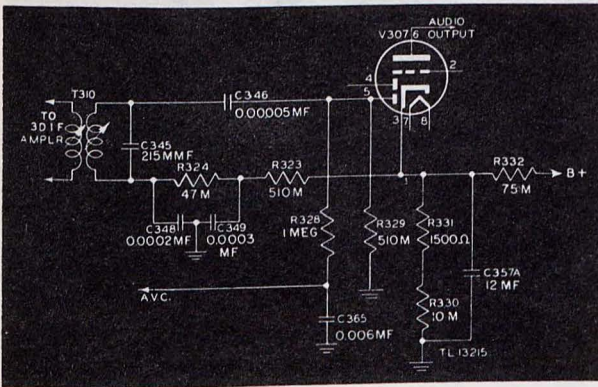

Figure 43. Radio Receiver BC-652-A, functional diagram of a-v-c circuit.
c. Figure 43 is the functional diagram of the a-v-c circuit. A-v-c action is accomplished by using the second diode plate (pin 5) of the detector and first audio tube V307. This diode is coupled to the output of the i-f circuit through capacitor C346. Signals from the secondary of transformer T310 are rectified by the a-v-c diode section of the tube, and the rectified voltage is developed across diode load resistor R329. Resistor R328 and capacitor